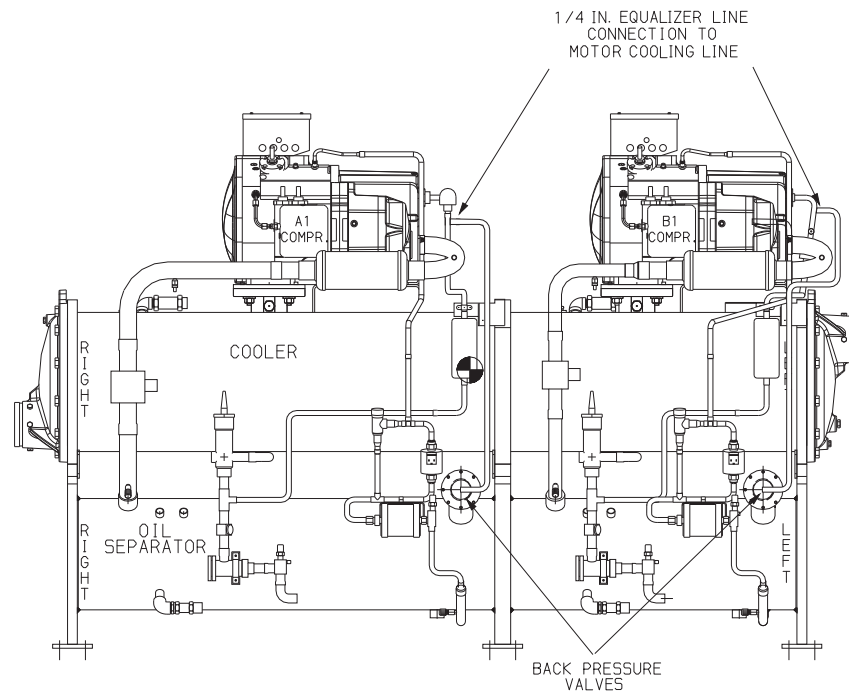

Fig. 20 — 30HXA Units Back Pressure Valve Equalizer Line Connection (076-146 Sizes Shown)
1. Be sure to remove nitrogen charge or properly recover refrigerant charge before removing the blank-off plate. Remove the blank-off plate from the mating flange on top of the oil separator by removing the screws from the flange. See Fig. 20 for location.